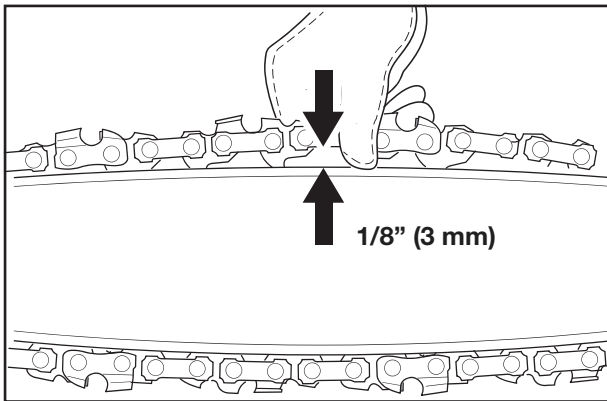

Fig. 1
1. Check the chain tension by pulling the saw chain away from the chain bar. A properly tensioned chain should have roughly 1/8 inch (3 mm) of distance between itself and the bar guide (Fig. 1).
3. To adjust the saw chain tension, the tension is correct when the drive links on the chain do not slip out of the chain guide on the bar when the chain is pulled up from the middle of the bar (Fig. 1). Rotating the chain tensioning screw upwards increases the tension while rotating it downwards